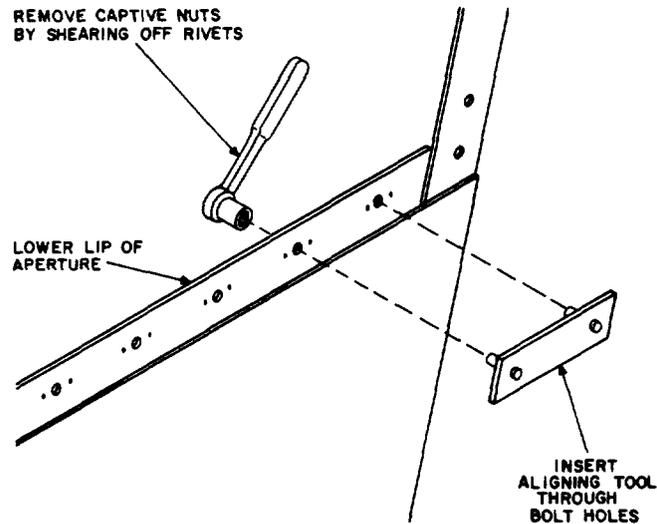

Fig. 9—Removing Captive Nuts
5.19 From the outside of the antenna, insert the pins of the alignment tool through the front panel and the captive nuts (Fig. 9).